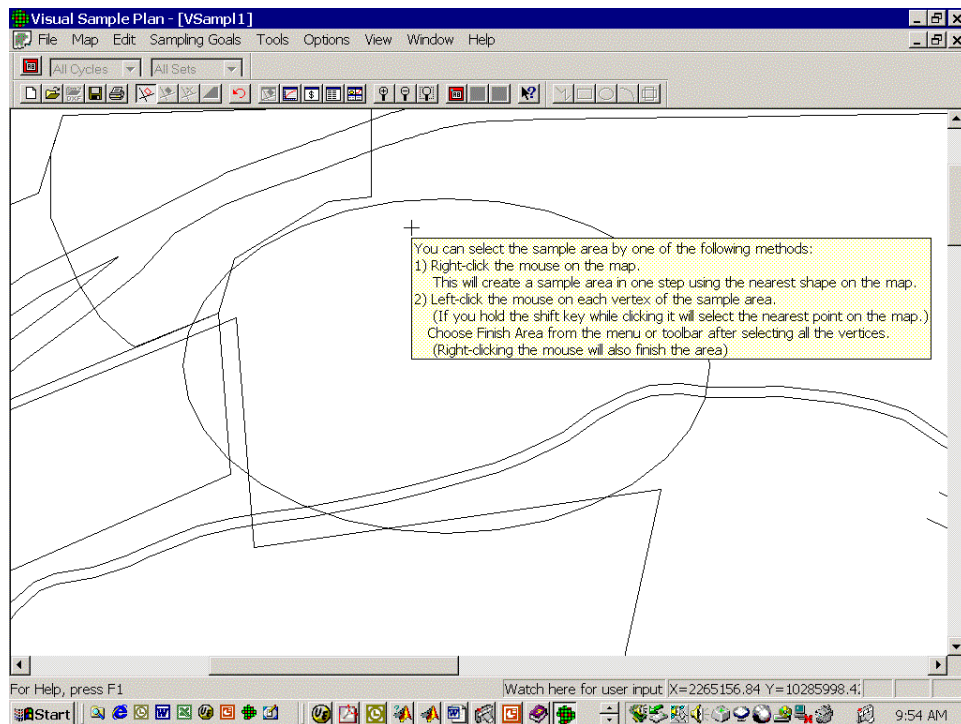

Figure 2. Tool tip for selecting a sample area
To make your screen look like Figure 2 below:
- Your Millsite map graphic will not fill the entire map window. To enlarge the map, select **View→Zoom In** from the main menu. Notice that the cursor now looks like a magnifying glass and the icon that looks like a magnifying glass with the plus sign is now selected. This is the **Zoom In** icon . Place the cursor on the oval (tailings pile) and click six or seven times to enlarge the map. Use the horizontal and vertical scroll bars to position your map like the one in Figure 2. Deselect **Zoom In** by clicking on the **Zoom In** icon. (Click the **Zoom Out** icon  if you need to shrink the map and then deselect it to return cursor to normal arrow.)